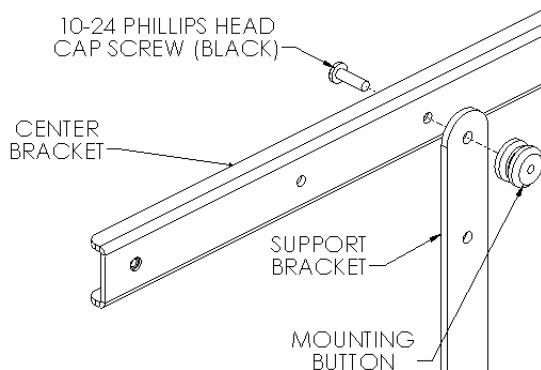
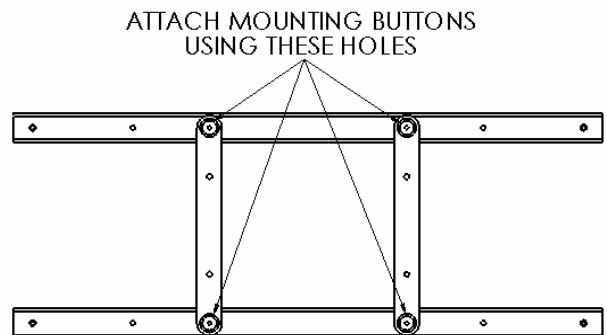

Figure 2
Figure 3
2. **Chief Q-latch Button Installation:** Using a black 10-24 philips head cap screw inserted from back side of bracket, secure support bracket and mounting button, with chamfered hole of mounting button (larger surface) facing support bracket, to center brackets (four places) (see Figure 2 & Figure 3).